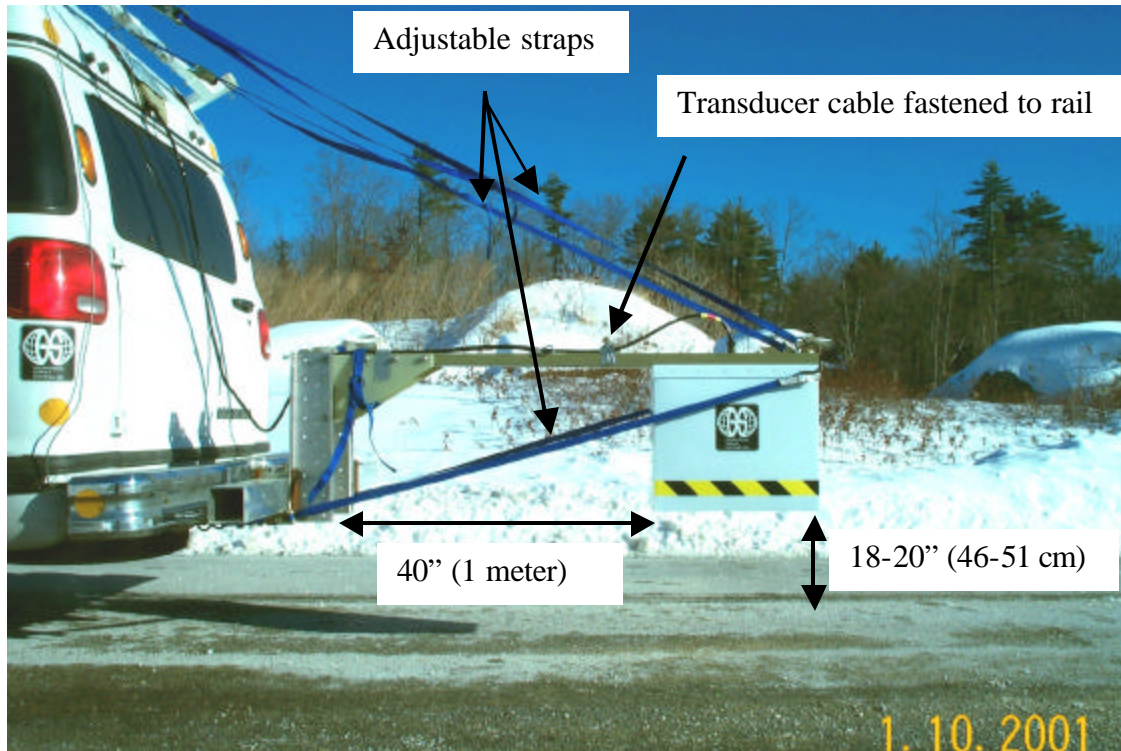

Figure 1: Typical Model 4108F setup showing fiberglass rods and gusset plates. The vertical metal pieces attached to the gusset plates are sold separately.
The Model 4108F antenna mounting hardware includes 2 square fiberglass tubes and 2 gusset plates. Figure 1 shows a typical 4108 setup on the back of GSSI's van.
8. The position of the signal may be shifted and the data collection settings may be slightly different than those currently recommended. Change the signal position if necessary so that it is similar to the signal position shown in Figure 1.